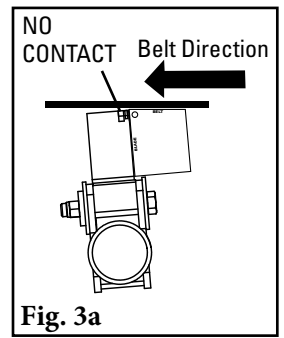
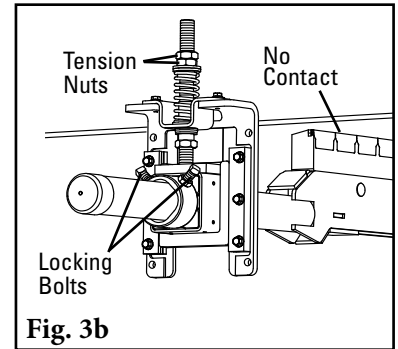

Fig. 3a
Fig. 3b
3. **Set the blade angle.** Center the pole/blades on the belt. Rotate the pole until the blade lays back 5° using the setup gauge provided (Fig. 3a). Tighten the two locking bolts on each torsion pole mount to lock the pole in place (Fig. 3b). There should be no blade-to-belt contact while locking the pole in the correct position. If contact occurs, double-check the dimension from Step 1. **NOTE:** For optimal cleaning performance, it is recommended that mechanical fasteners on the belt be skived.